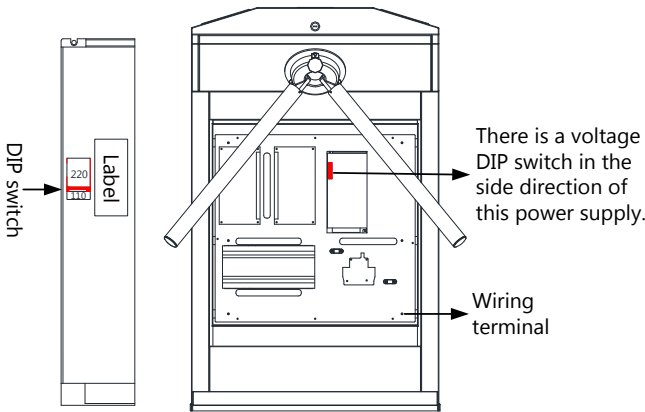

Figure 2-3
1. Please make sure that the power requirements are strictly met to avoid permanent damage to the unit. You could change the input voltage 110V or 220V through the DIP switch, as shown in figure 2-3.